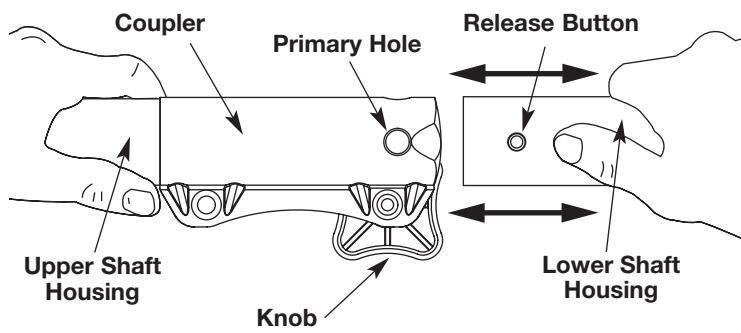

Fig. 2
3. While firmly holding the add-on, push it straight into the coupler (Fig. 2).
**CAUTION:** Lock the release button in the primary hole (Fig. 2) and securely tighten the knob before operating this unit.
2. Press and hold the release button (Fig. 2).
3. While firmly holding the upper shaft housing, pull the hedge trimmer attachment out of the coupler (Fig. 2).